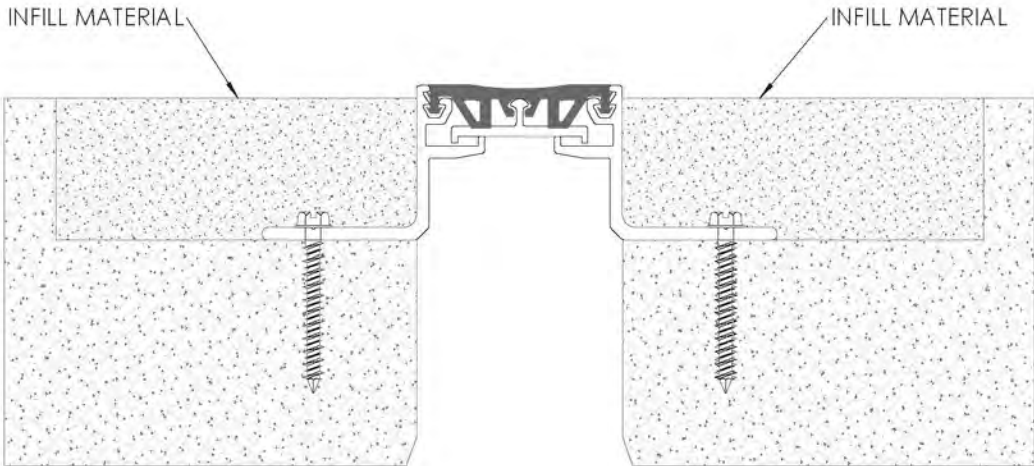

FIGURE 5
- 5. Protect the exposed surface of the expansion joint, then using an appropriate infill material (by others), fill in the blockout level with the surrounding floor. **See Figure 5**